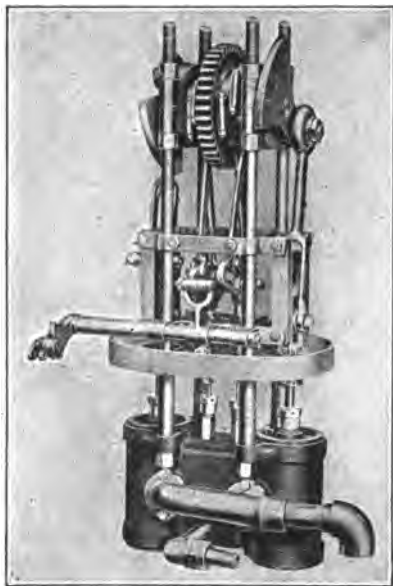
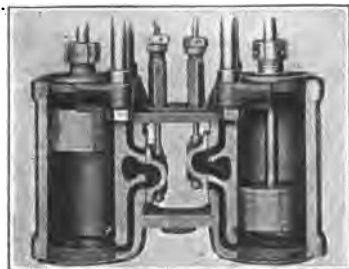

Fig. 26. Stanley Two-Cylinder Steam Engine, Showing Link Motion and Balanced Shaft
Fig. 27. Cylinder Construction of Stanley Steam Engine, Showing Steam Chest in Center
**Stanley.** An example of the two-cylinder type is the Stanley engine, which, in the present models, is made in three sizes of the following bore and stroke:  $3\frac{1}{4}$  by  $4\frac{1}{2}$ , 4 by 5, and  $4\frac{1}{2}$  by  $6\frac{1}{2}$  inches. This engine is geared directly to the rear axle by a spur gear mounted on the crankshaft, as shown in Fig. 26, and the frame rods are attached radially from the axle housing. The cylinder end is attached to the frame of the car. The rear-axle gear ratio in the small light runabout model is 30 to 56, and in the heavy delivery car is 40 to 80. With a gear ratio of 40 to 60 in one of the touring cars the engine turns over at 447 r.p.m. when the car is running 30 miles per hour.
Both cylinders take high-pressure steam at both ends, the engine being of the double-acting, simple type. The steam chest, Fig. 27, lies between the two cylinders, with the D-slide valves driven by the eccentrics lying next to the drive-shaft gear. In Fig. 26 is shown the Stephenson link by which the cut-off is hooked up and the reversing of the engine accomplished. This valve gear has been described in detail on page 23. The cross shaft, working the link, and the hook, for holding it in the normal position, are shown just to the left of *A*.
Roller and ball bearings are used extensively in the Stanley motor. The crosshead bears on a plain crosshead guide, and the connecting-rod and eccentric-strap bearings are of the ball type. The counterweights are also shown in Fig. 26.